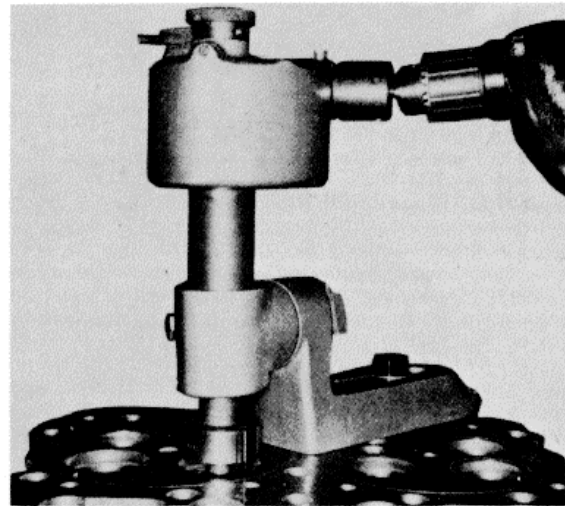

Fig. 2-10 (N 10288) Counterboring for valve seat with ST-257
3. Use ST-663 Valve Guide Arbor and ST-257 Valve Seat Insert Tool Driver, Fig. 2-10, to hold and drive ST-662 Valve Seat Insert Cutter when cutting valve seat insert counterbore.